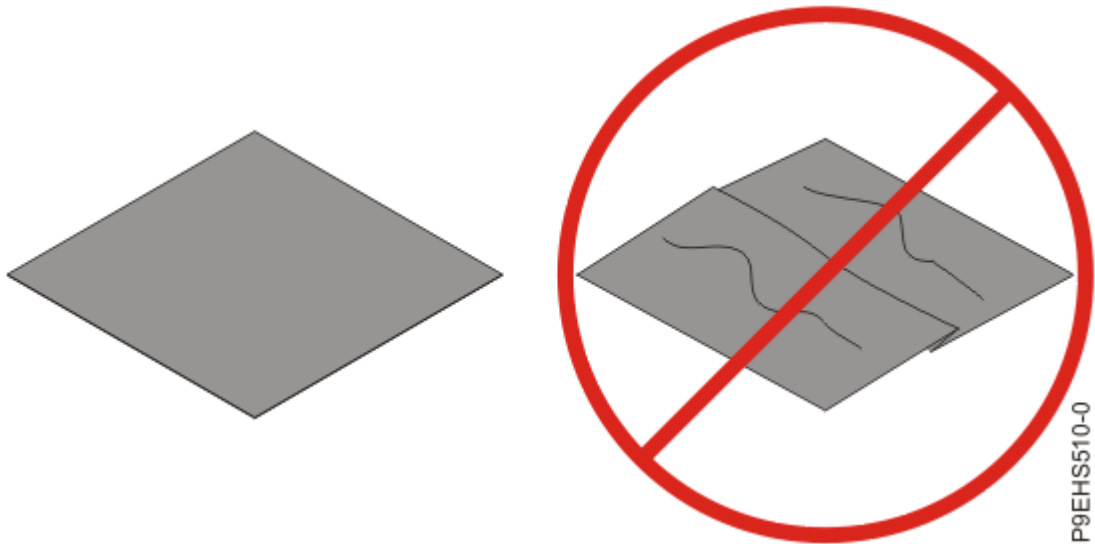

Figure 60. Inspecting the thermal interface material
- 15. Inspect the thermal interface material (TIM) for visible signs of damage, as shown in Figure 60 on page 75. If you see folds, tears, bends, or if you have doubts about the TIM, replace it.